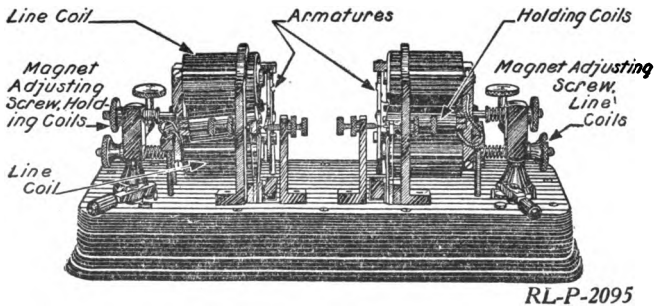

Fig. 38.—Shunt locking repeater
1. Examine and trace circuits of the Signal Corps shunt locking repeater. (Fig. 38.)